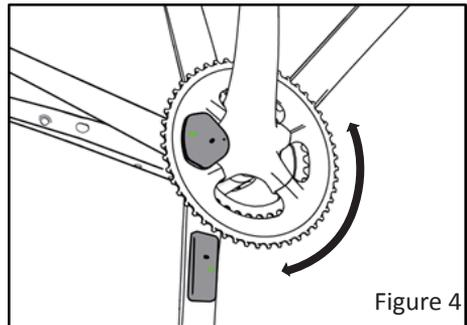

Figure 4
Step 2: Wake up the Giant Power Pro, as shown Figure 4.